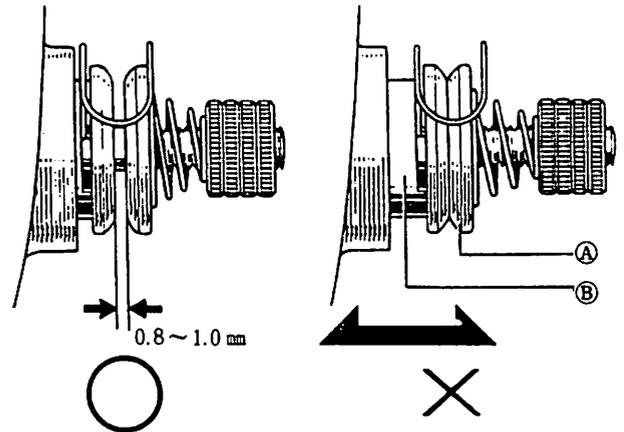

Fig. 10.13
(1) Lift the presser foot and loosen the thread tension regulator set screw.
(2) Move the tension regulator bushing (B) in the direction indicated by arrow in Fig. 10.13, so that the gap between tension discs (A) is within a range from 0.8mm to 10.mm.